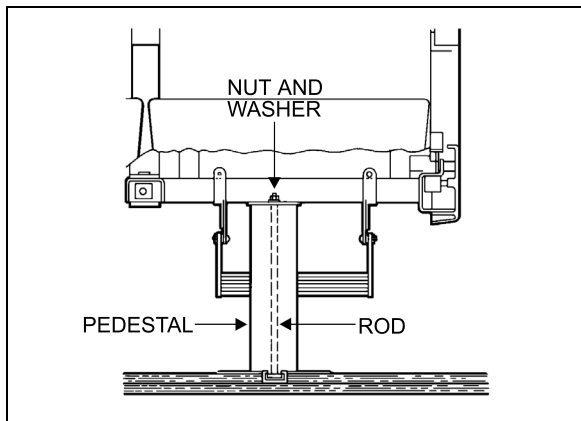

FIGURE 91: SEAT PEDESTAL ASSEMBLY
5. Remove 2 nuts and washers holding seat frame to pedestal rods. See Figure 91.